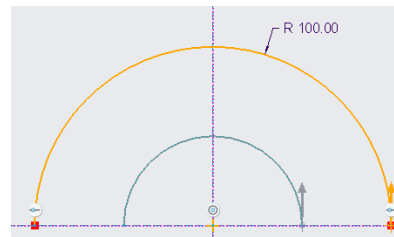

Figure 15-102 Sketch of the second arc
7. Draw the second arc and dimension it, as shown in Figure 15-102.